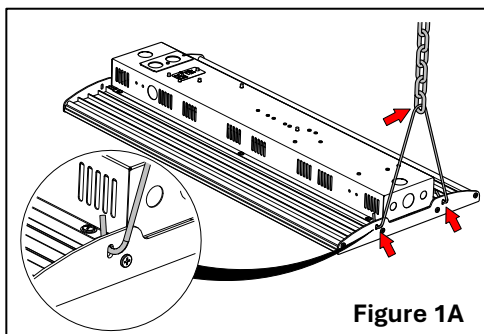

Figure 1A
2. Attach each chain or cable (provided by others) to the included hooks (One chain/cable per hook). Attach the hooks to the fixture using the dedicated slots located on each end of the fixture and mount the fixture [Figure 1A].